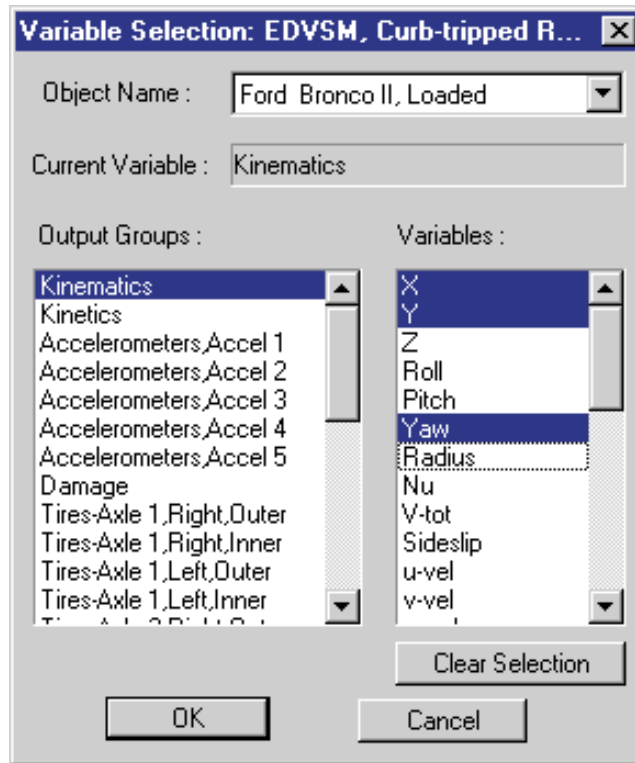

Figure 5-22 Variable Selection dialog, used for selecting results displayed in the Variable Output table.
- Click on *Select Variables* in the *Ford Bronco II, Loaded Variable Output* window. The Variable Selection dialog for *Ford Bronco II, Loaded* is displayed, as shown in Figure 5-22.